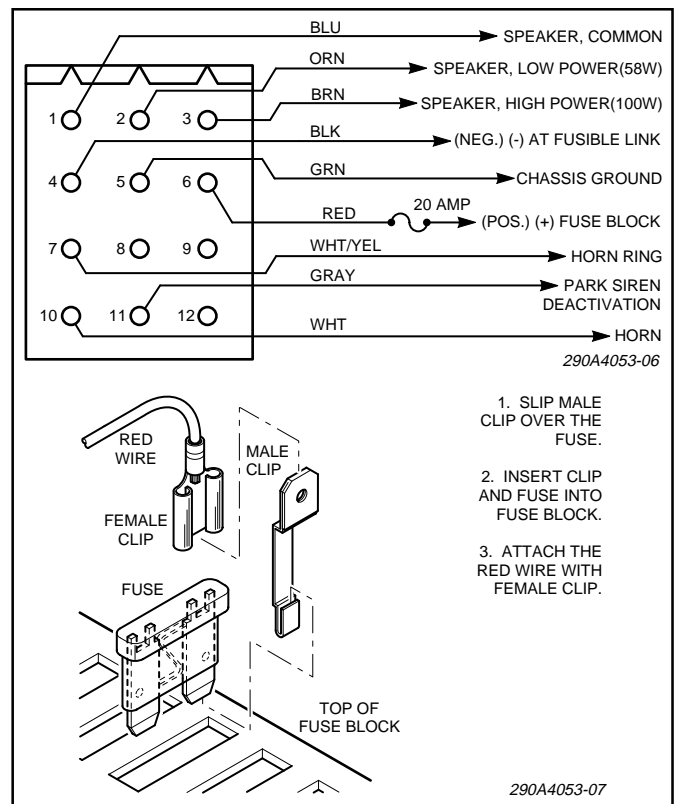

Figure 3-4. Power Cable and Fuse Clip Adapter Installation.
The unit is designed to operate with one 11-ohm impedance speaker or two 11-ohm impedance, low power (58W) or high power (100W), speakers connected in parallel and in phase. On Federal speakers, this can be accomplished by connecting the two speaker leads marked "1" to the SPEAKER COMMON power cable lead and the two speaker leads marked "2" to the SPEAKER HI POWER or SPEAKER LO POWER power cable leads. See figure 3-4.
POWER) as shown in Power Cable Wiring Diagram, figure 3-4.
See figure 3-4. To use this feature, connect the power cable’s gray wire to a vehicle circuit that is grounded when the vehicle is shifted into PARK.
4. Connection to Power Source (see figure 3-4).
Route the red (+) power cable lead to the fuse block or user-supplied switch. When the red (+) power cable lead is routed to the fuse block, install the supplied fuse clip adapter as follows (see figure 3-4):